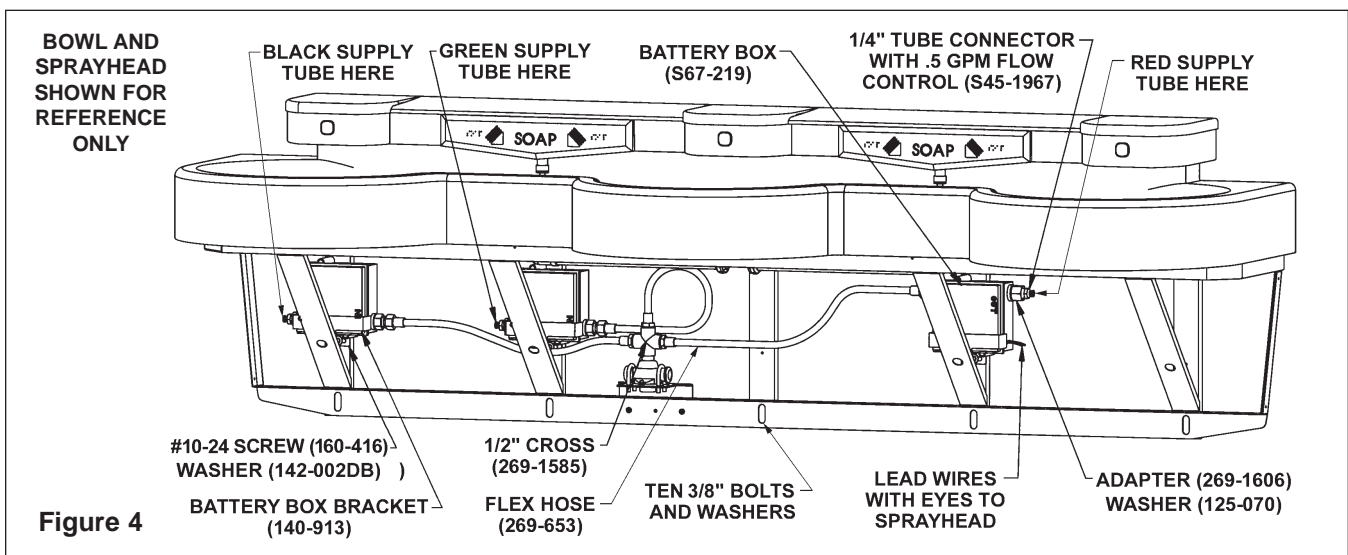

Figure 4
2. Attach the battery box brackets to the frame at three places using the #10-24 screws and washers provided (see Figure 4).
5. Once you have positioned the frame such that it is level and flat against the wall or shimmed, use the 3/8" bolts and washers to mount the frame to the wall (see Figure 4).
1. With someone to assist you, rest the back of the bowl/sprayhead assembly onto the front of the frame. Remove the battery boxes from the bowl basin and place them into the battery box brackets mounted to the frame (see Figure 4 on page 7 for correct positioning of the battery boxes).
5. HOT/COLD VERNATHERM™ OPTION ONLY: Attach the 1/2" cross to the Vernatherm™ assembly using a thread sealer (see Figure 4 on page 7).
6. Attach the male end of the 1/2" flexible hose to the 1/2" cross using a thread sealer. Attach the female end of the 1/2" flexible hose to the battery box using the fiber washer attached to the hose (see Figure 4 on page 7).
7. Attach the 1/4" supply tubes from the sprayhead to the battery box's 1/4" connector fitting. Make sure the black color supply tube goes to the left side battery box, the green tube goes to the center box and the red tube goes to the right side box (see Figure 4 on page 7).